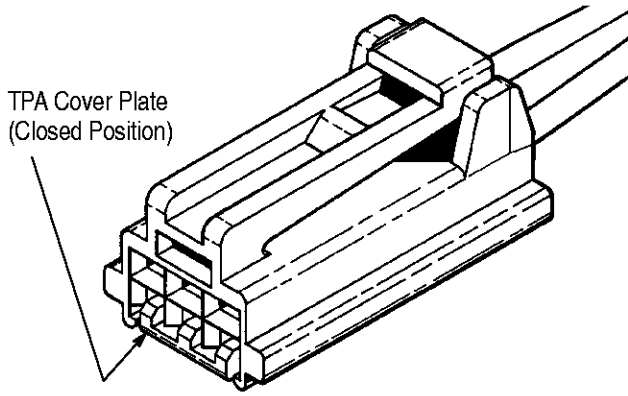

Figure 3
3. After all required contacts have been inserted, the TPA cover plate must be closed (see Figure 3). To close the TPA cover plate, push evenly across the outer surface and rotate the hinged cover plate until an audible snap is heard. The TPA cover plate should be flush with the connector body.